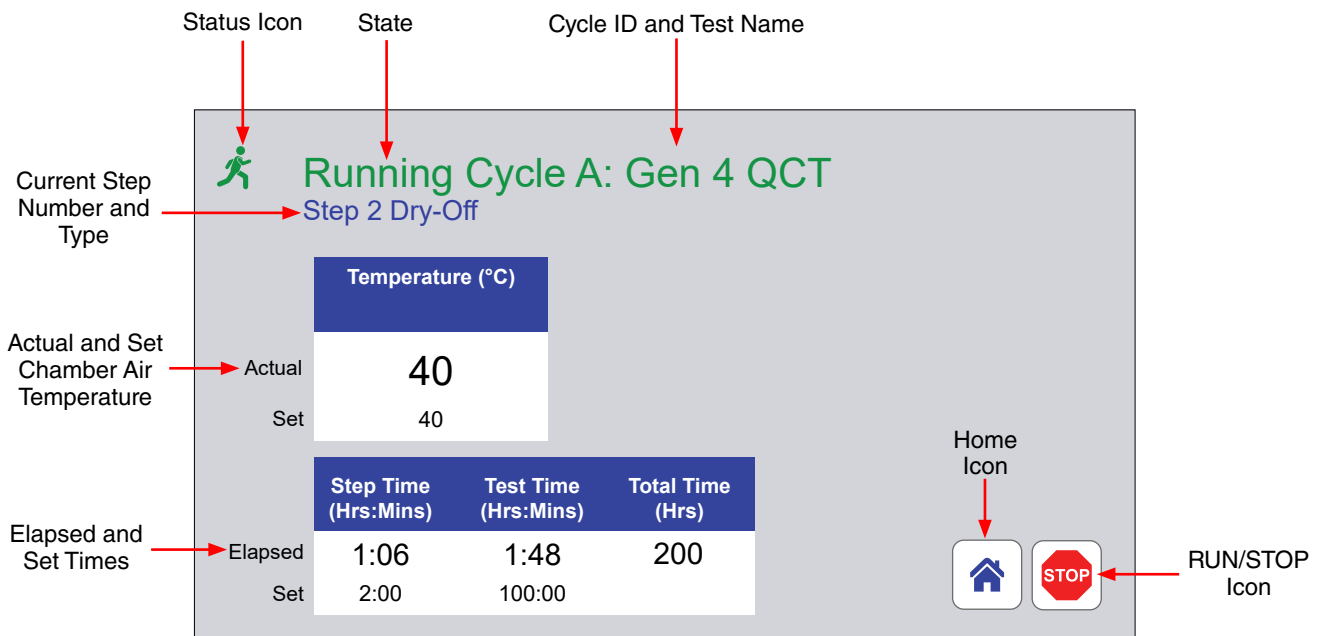

Figure 8.3a: Status screen components.
- The Status Display (Figure 8.3a) shows: